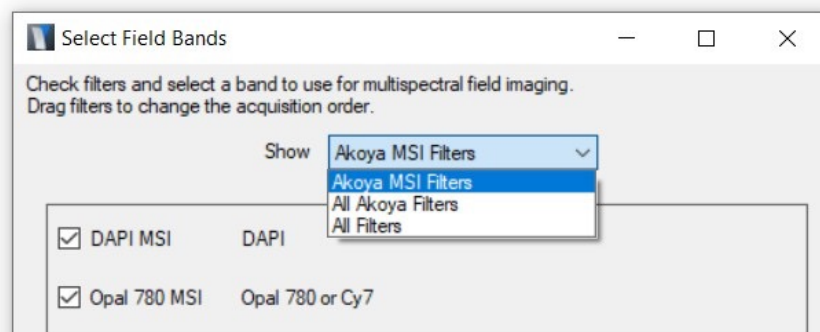

Figure 4.30. Select Field Bands – MSI filters.
- Show Akoya MSI Filters to limit the available filters to installed Akoya filters that are appropriate for multispectral fields. (See Figure 4.30.)